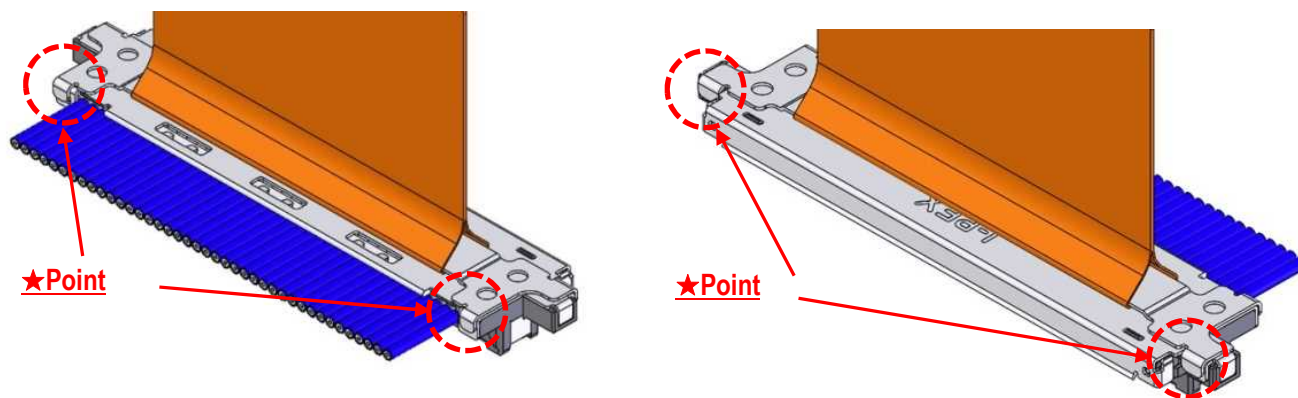

Fig.12 The assembly confirmation of PULL TAPE HOLDER
- ② Make sure that PULL TAPE HOLDER is assembled properly.( Fig.12★point)